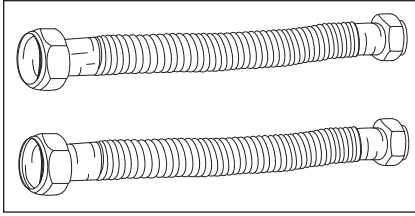

Figure 1 - Flexible connectors use compression fittings and do not require soldering.
- Threaded connections (Figure 1) for the cold and hot water pipes
- For homes with copper pipes, you may purchase connector kits with compression fittings that don't require soldering (Figure 1). Compression fittings are easier to install than soldering copper pipes